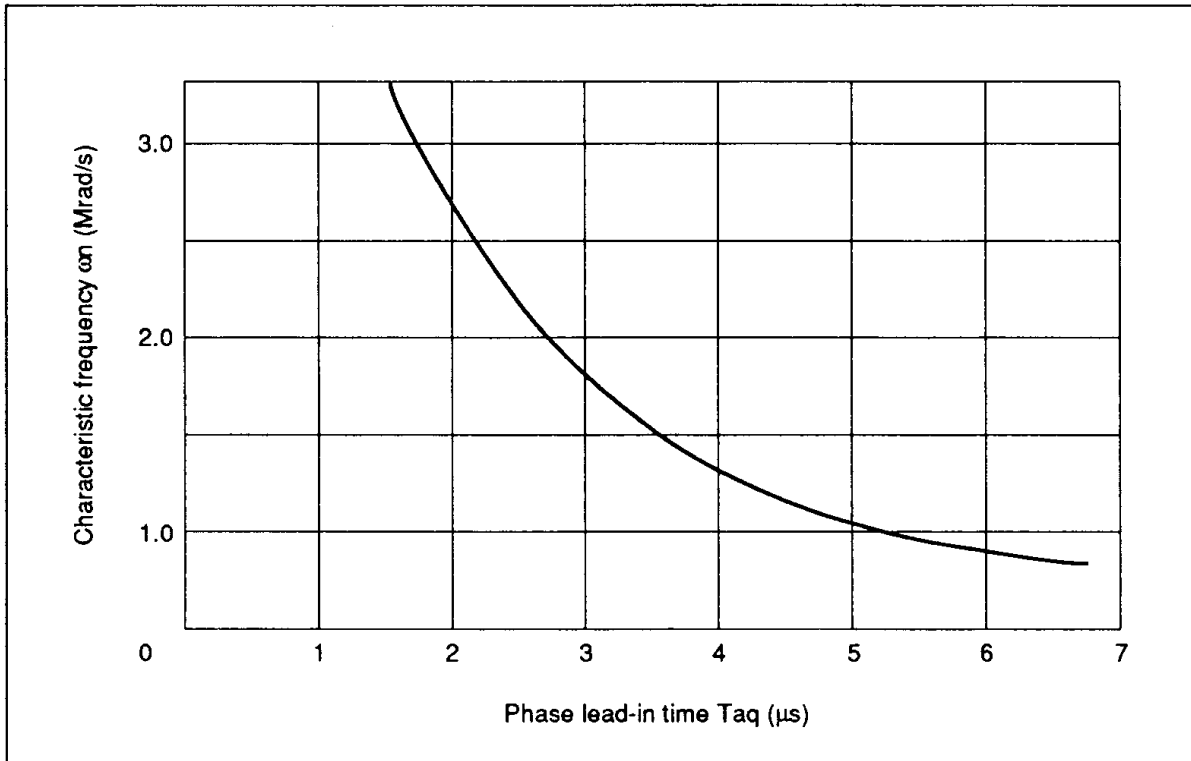

Figure 1 The Relation between Phase Lead-in Time T_{aq} and Characteristic Frequency ω_n
- b. Determine the High-Gain characteristics frequency ω_n (H) which is required to set the phase lead-in timer T_{aq} according to figure 1.
However, the ω_n (H) should be set 1.17 times as much as that from figure 1, considering variations of ICs and parts.